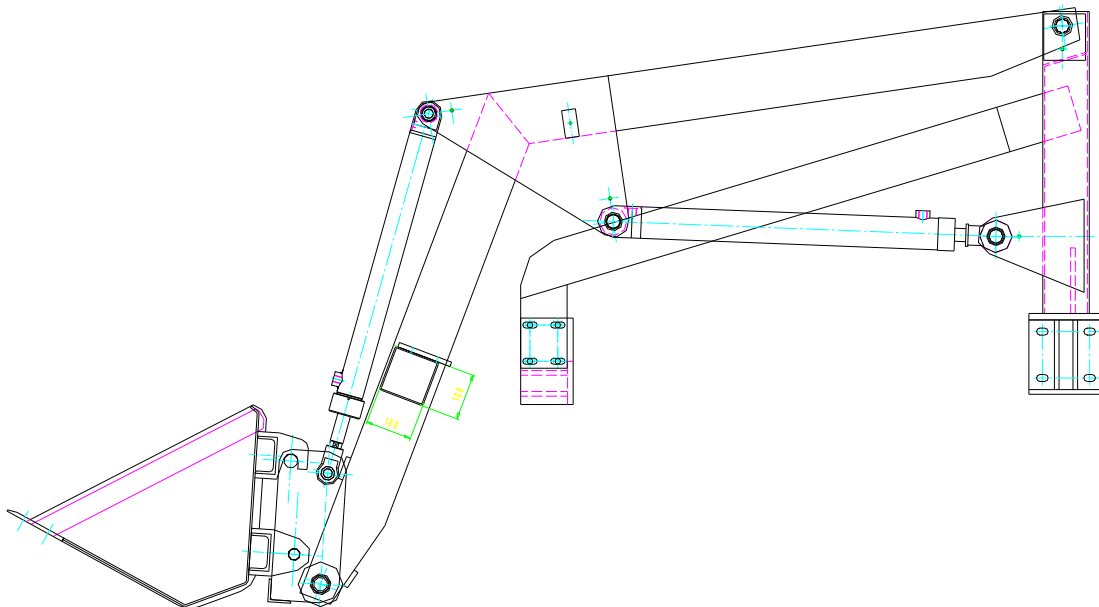

Fig.2-4 Model B (quick-link between lift arm and bucket)
2.1.3 Model B(As shown in Fig.2-4)